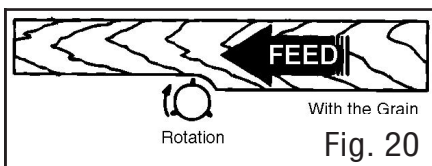
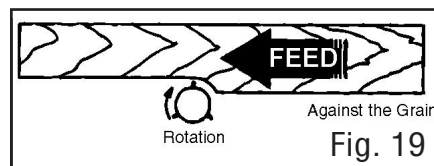

Fig. 20
Fig. 19
4. Cut with the grain whenever possible (Fig. 20). Do not feed against the end grain (Fig. 19), otherwise the workpiece may split and shatter. If the nature of the workpiece requires you to joint against the grain, take extremely light cuts and feed slowly. When using long work pieces, use extra supports at both ends of the jointer.